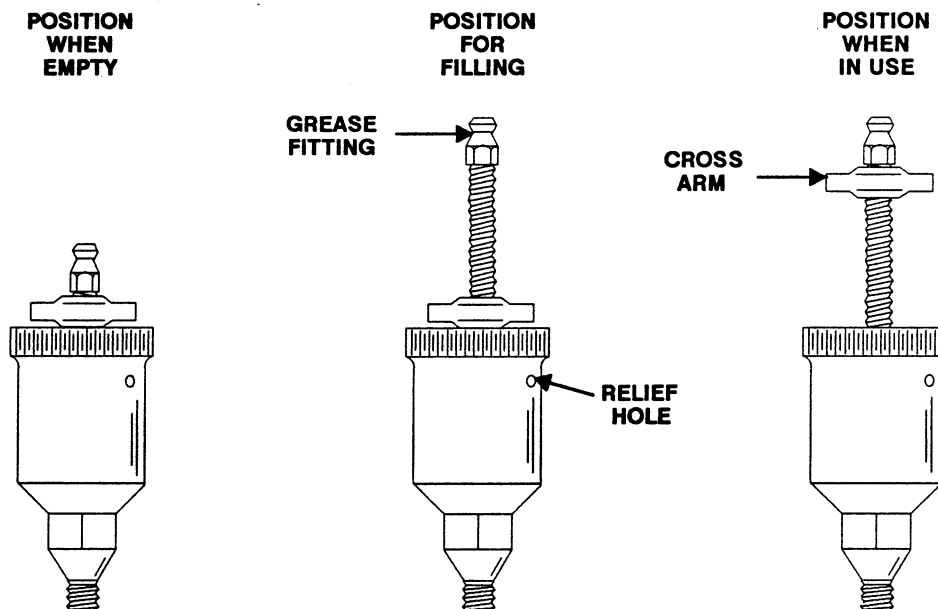

Figure 5. Automatic Lubricating Grease Cup
Fill the grease cup (8) through the grease fitting with No. 2 lithium base grease until grease escapes from the relief hole. Turn the grease cup arm counter-clockwise until it is at the top of the stem; this will release the spring to apply grease to the seal (see Figure 5).